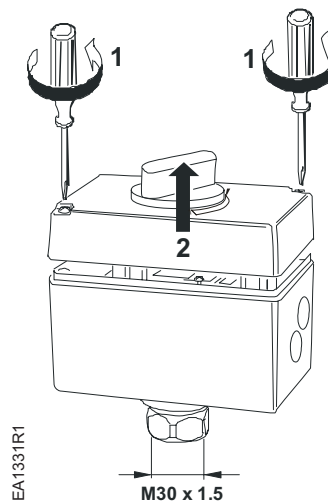

Figure 7.
- Use either a Phillips head screwdriver or a flat-blade screwdriver to remove the actuator cover for access to the terminal block, selector plug, and jumper wire. See Figure 7.